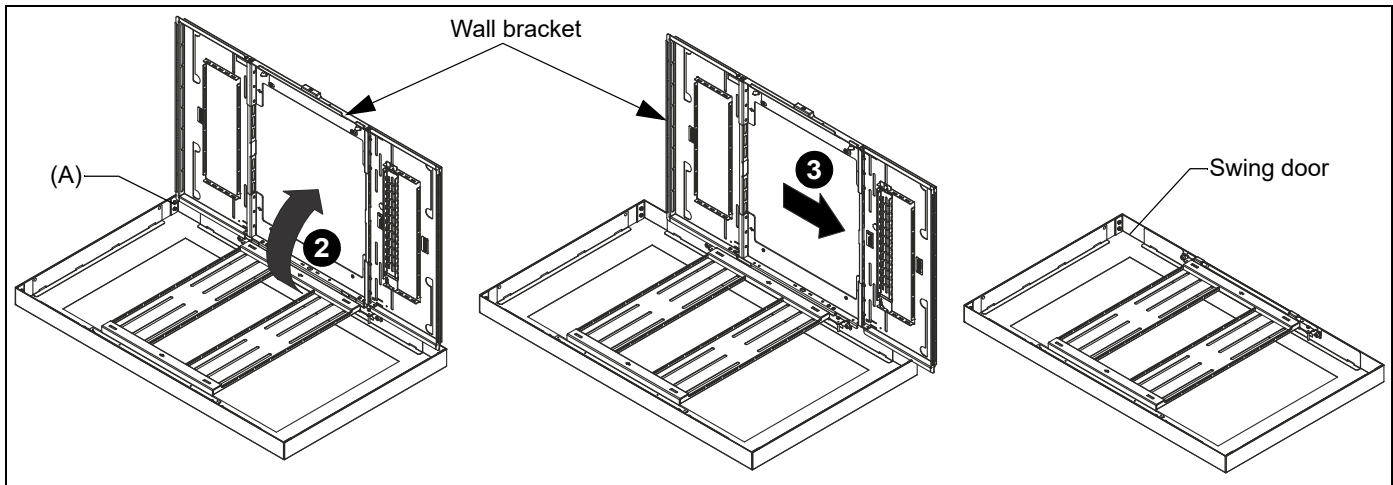

Figure 1
1. Remove kiosk (A) from the packaging and place on a flat surface. (See Figure 1)
3. Keeping the wall bracket at 90°, slide the wall bracket about 1 inch towards bottom of kiosk until hinge pins clear the hinges, and move the wall bracket away from the swing door. (See Figure 1)